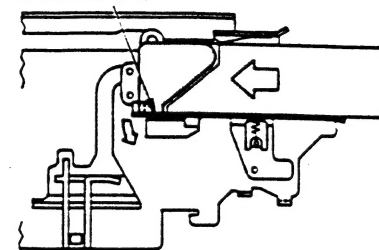

Fig. 3-1-2
1. When a cassette is loaded into the cassette holder, two cassette detection switches mounted under the cassette holder are pressed by the bottom case of the cassette and closed. (IC601 controls IC602 to rotate the FL motor in forward direction.) (Fig. 3-1-2)